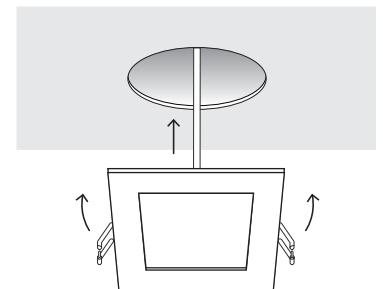

Figure 4
2. Push spring loaded clips on the fixture upwards and insert fixture base in to the mounting hole. Release the clips and fixture will be pulled flush to the ceiling. (Figure 4)